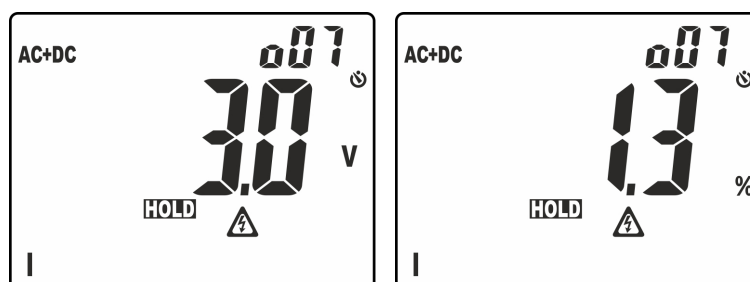

Fig. 4: Display of ordering of amplitude of harmonic analysis
- Long pressing of the key (at least 2s) in order to activate the **H₂O** (Higher Harmonic Ordering) ordering function of the amplitude of harmonics. In these conditions, function "HOLD" is automatically activated and symbol "o" appears next to the displayed harmonic order to indicate that the Ordering function is activated. The bargraph is disabled and the instrument shows the value of amplitude of all the harmonics between the DC value and the 25th, fundamental harmonic excluded, in a **decreasing order** starting from the harmonic with the highest amplitude, as shown in Fig. 4
In the example in Fig. 4, the harmonic with the highest value corresponds to the 7th. Press key $\blacktriangle$ to observe the amplitude of the remaining harmonics and press key **H/H%/H $\bar{\square}$** again to switch between display in absolute and percentage values. Turn the rotary switch to exit the function.